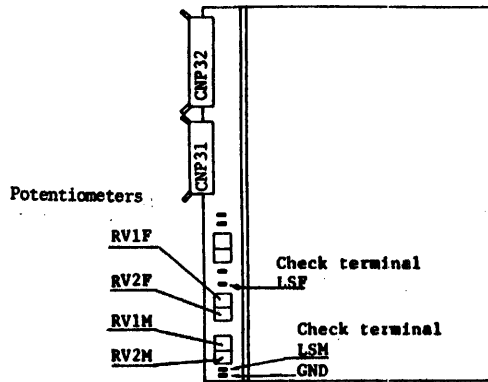

Figure 4-8. PCA 1A04 located in the MTU logic gate assembly.
- (4) Adjust potentiometers RV1F and RV1M shown in Figure 4-8 so that the output voltage is 0 ± 0.2 V.
- (5) Set the field tester switches to Command code \$AA.